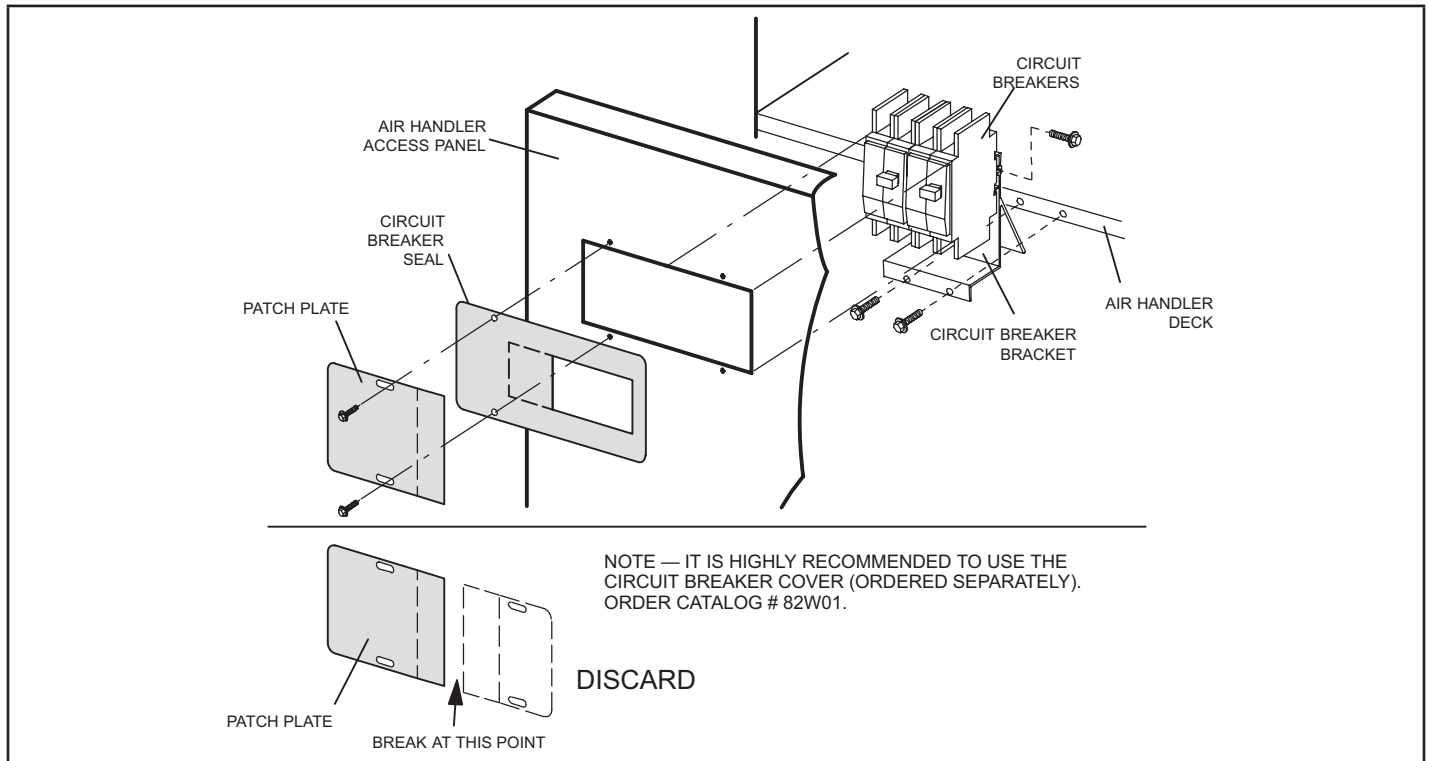

FIGURE 4. Circuit Breaker Seal and Patch Plate Installation
- 2 - The air handler access panels are factory supplied. There is a patch plate over the circuit breaker opening. Remove the circuit breaker patch plate from the air handler access panel. See figure 4.